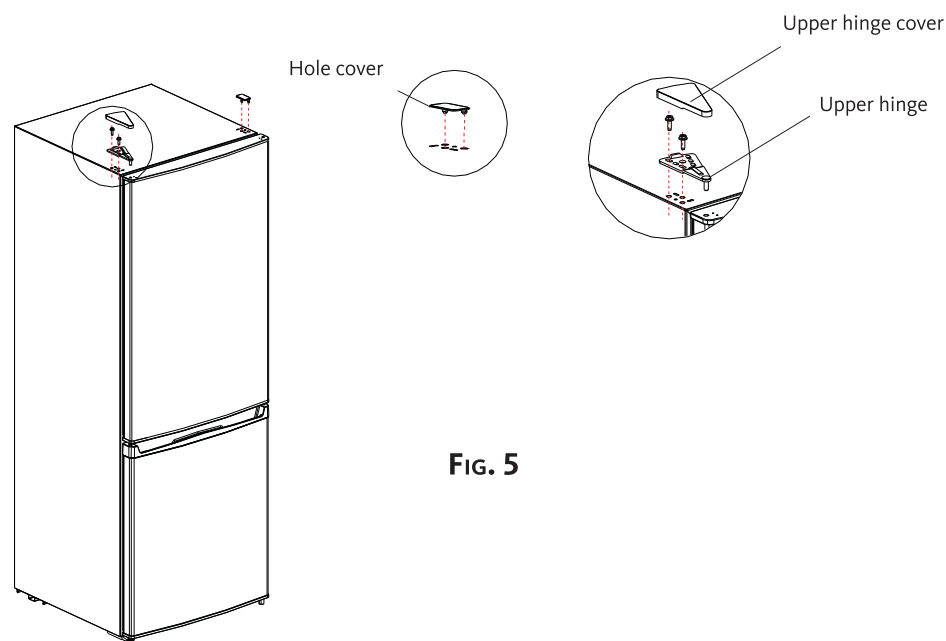

FIG. 5
6. Put the refrigerator compartment door back on the middle hinge by pressing it against the appliance. Be sure to align the door with the appliance. Put the upper hinge and the upper hinge cover back on, then put back the hole cover back on the other side (see figure 5).